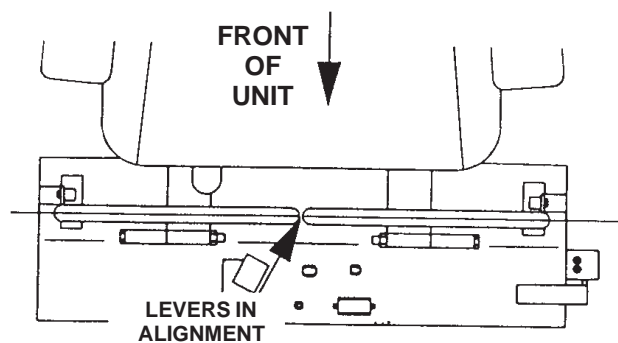

Figure 5
5. If the ends of the levers hit against each other, while in the drive position (Fig 5) (levers rotated in as far as possible) make adjustments by moving the levers outward to the neutral lock position and carefully bend them outward. Move them back to the drive position and check for clearance. Repeat if necessary.